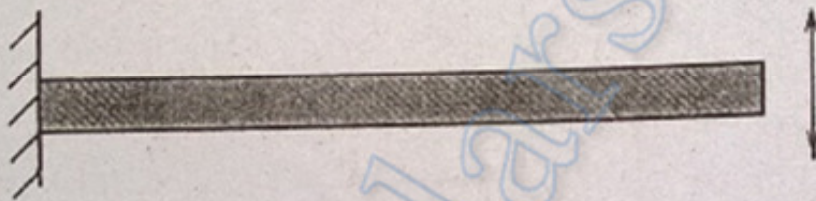

Fig.14(a)
14. (a) Determine the first two natural frequencies of transverse vibration of the cantilever beam shown in Fig.14(a) and plot the mode shapes.